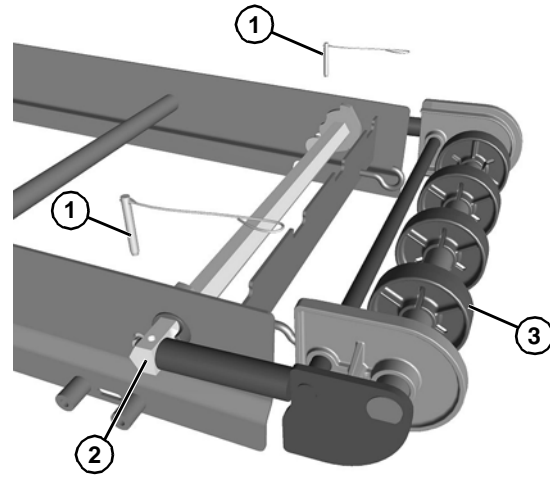

Figure 65
1. Remove the pull pins (**Figure 65, item 1**) from tip up hex shaft assembly (**Figure 65, item 2**).
2. Slide the idler tail assembly (**Figure 65, item 3**) out of the tip up hex shaft assembly.